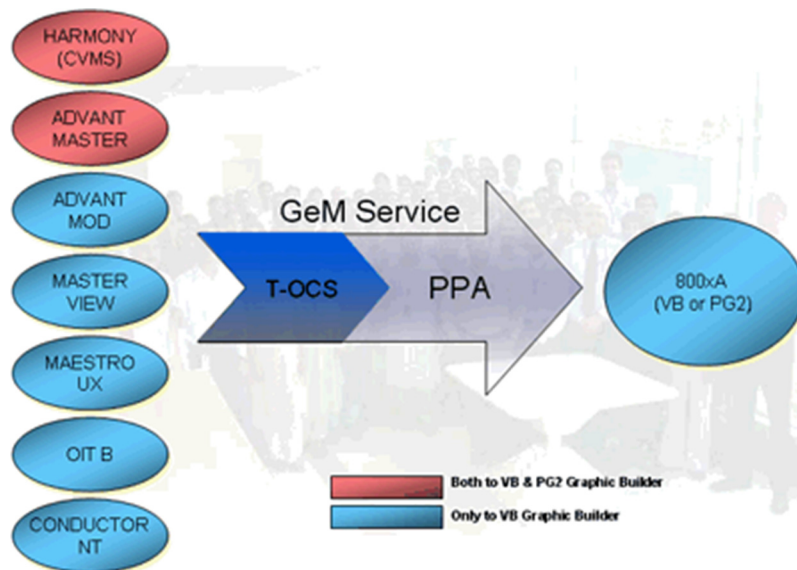

Figure 167. GeM Service
- Providing the Human System Interface (HSI) upgrade services from many traditional OCS systems to System 800xA, using the Automated GeM tool (Figure 167).